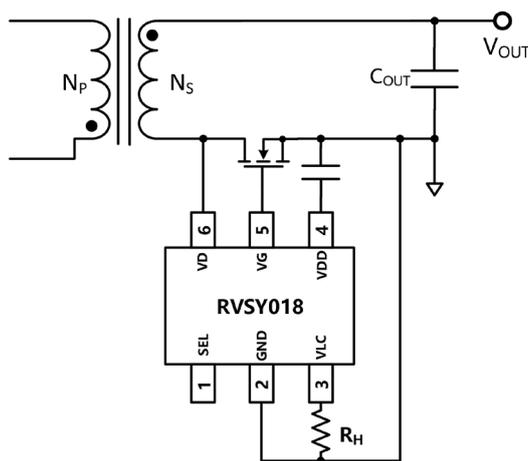

Fig. 14
③ If the SR MOSFET has a high threshold voltage or a large $R_{DS(ON)}$, a resistor R_H can be connected between the VG pin and GND, as shown in Figure 14, to increase the gate drive voltage and thereby enhance conduction efficiency. In this configuration, the relationship between V_G and V_{DS} during the voltage-limited conduction stage is defined as: